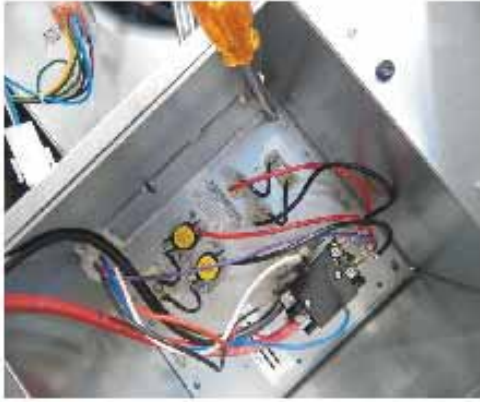

Figure 14
7. Install heater element(s) with the four (4) pointed screws included in the unit literature bag. Note the air flow direction label located on the heater element base shown in Figures 14 and 15. Orient the heating element base to match airflow direction on package unit blower assembly. Ensure screws attaching horseshoe contactor plate fit into relief cuts of package unit.